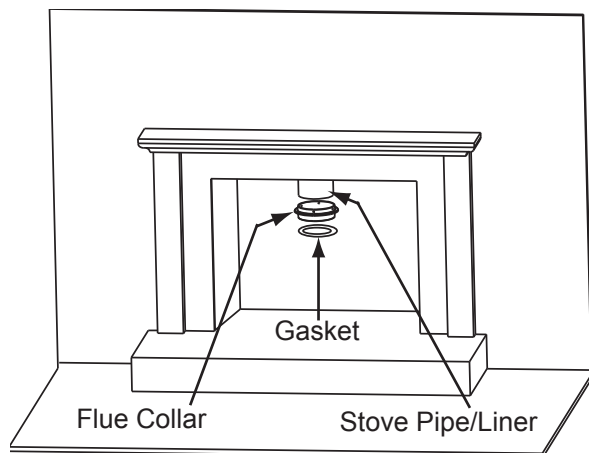

Figure 18.1
1. There are 4 pre-drilled holes in the flue collar 90 degrees apart. Attach the flue collar to the stove pipe/liner. If the seal is questionable use high temperature sealant such as stove mastic **Figure 18.1**.